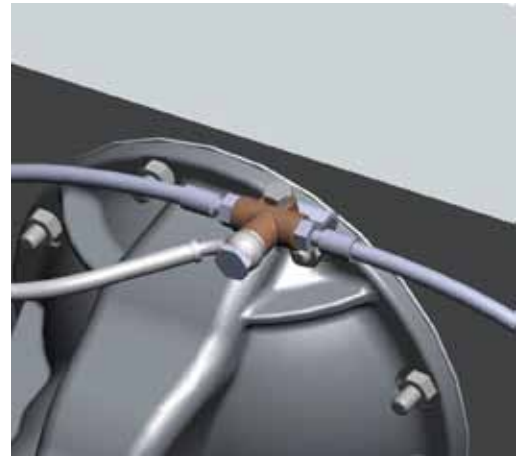

Figure 12
- c. Install banjo end of 24.75" braided brake line to tee fitting on rear differential as shown using supplied hardware. Figure 12. Retighten line at the residual valve.